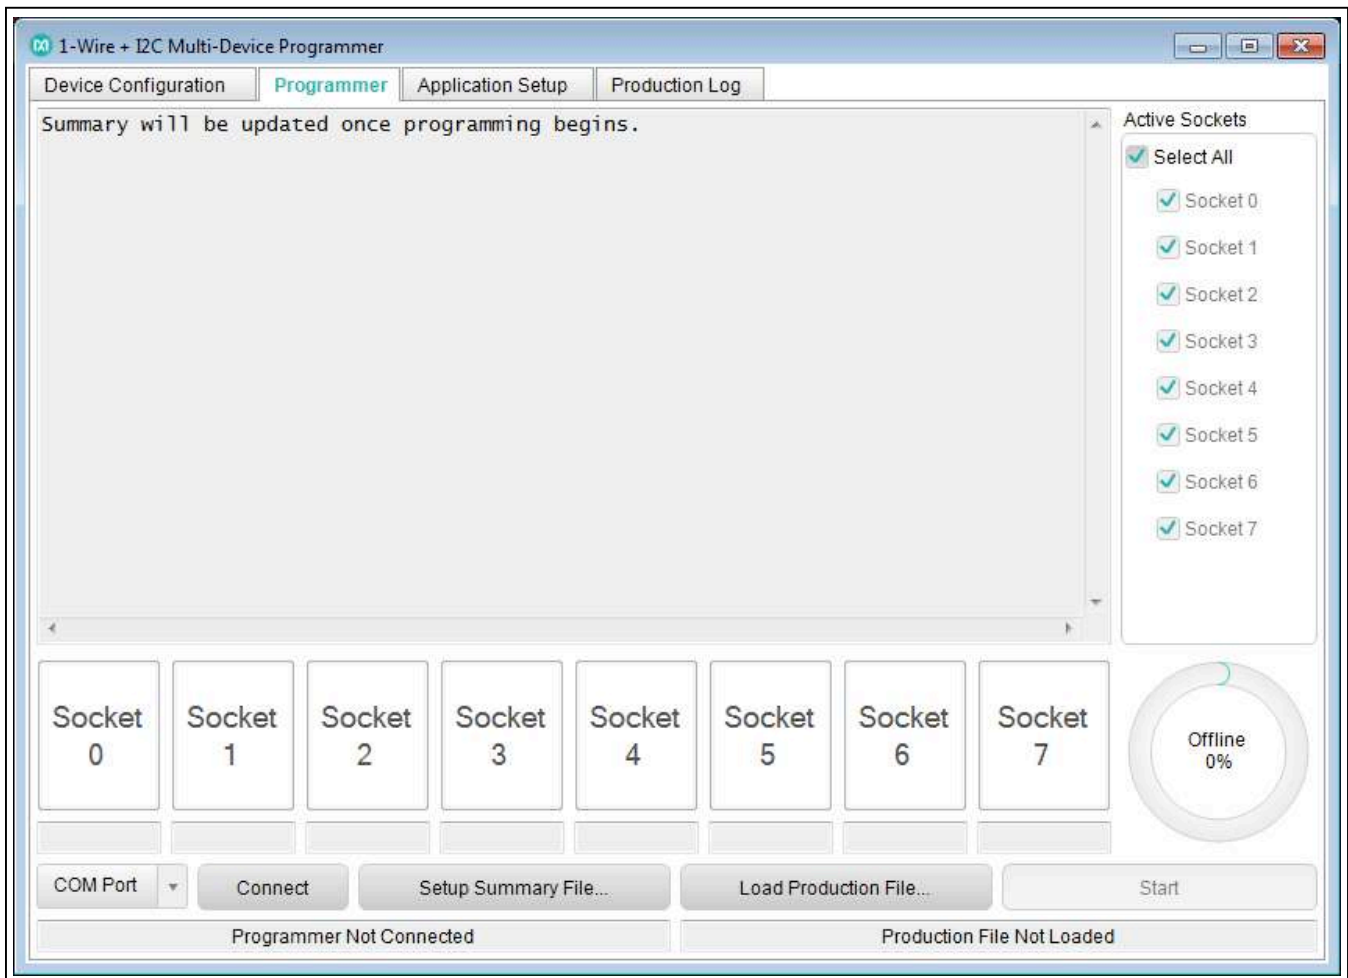

Figure 4. Programming Dialog
- 2) Navigate to the **Programmer** tab and select the active sockets as shown in Figure 4. An error is generated during programming if an active socket is not populated with an IC.